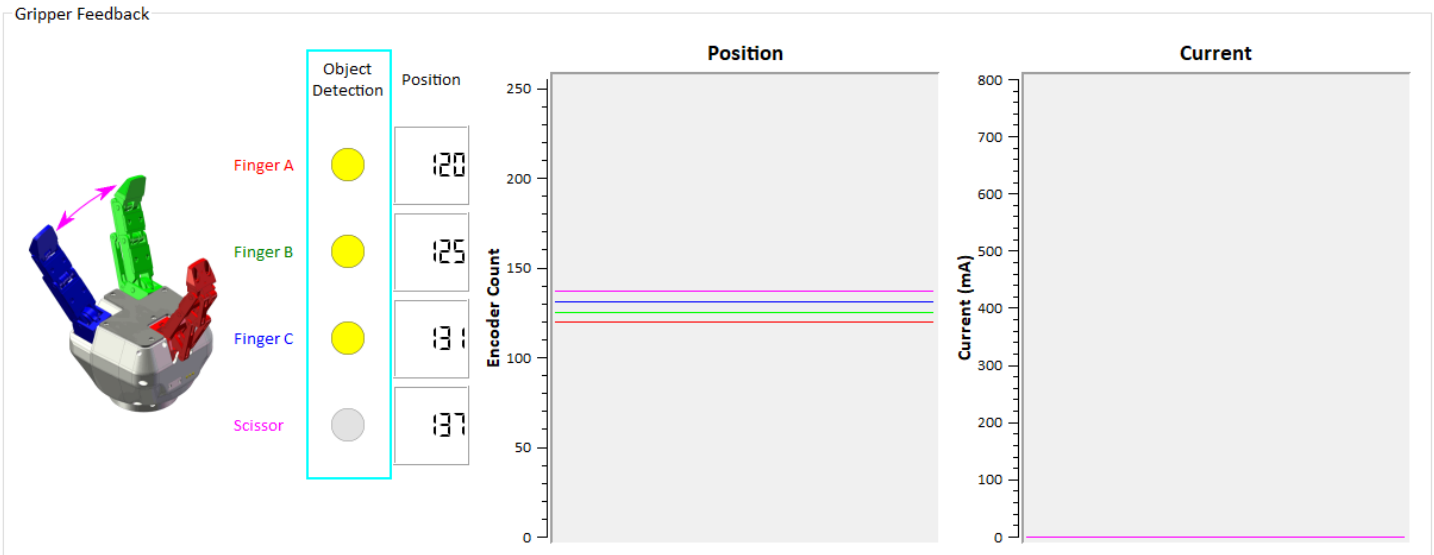

Figure 5.1.5.1 : Positive object detection is registered when the object detection dot turns yellow.
- Object Detection:** If the Gripper detects a contact with an object when closing, the "Object Detection" display turns yellow on the corresponding finger (see Figure 5.1.5.1). Object detections are displayed independently for each of the three fingers and the scissor axis.